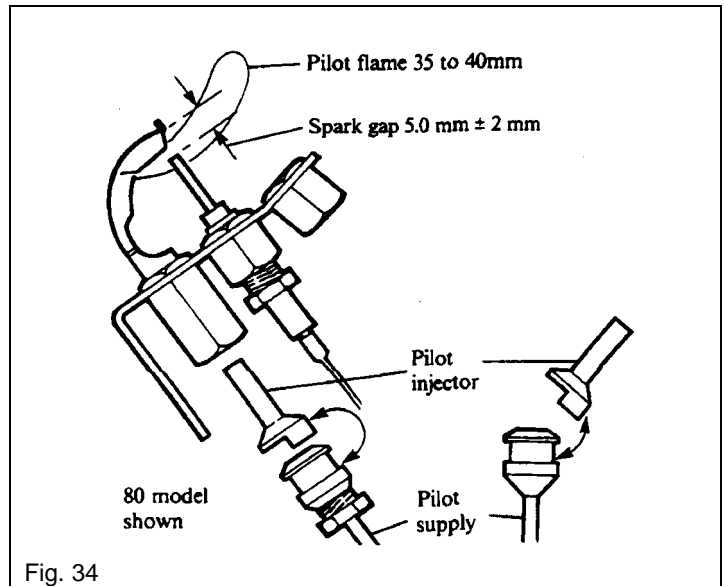

Fig. 34
11. Undo the securing nut and remove the spark electrode, see Fig. 34, from the pilot assembly.
Carefully remove and retain the pilot injector, see Fig. 34.
2. Locate the pilot injector over the end of the pilot supply, as shown in Fig. 34 and carefully position it in the pilot burner. Secure the pilot supply to the pilot assembly and gas valve.
3. Replace the spark electrode and check that the spark gap is 5.0 mm  $\pm$  2 mm, see Fig. 34.
Refer to Fig. 34.